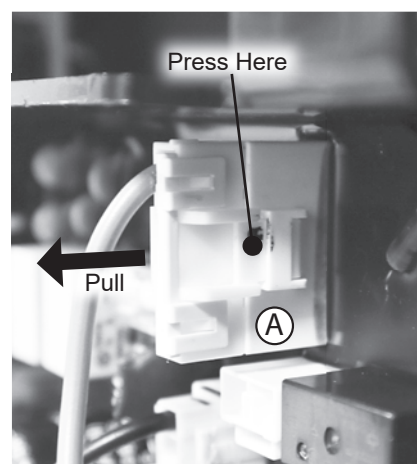
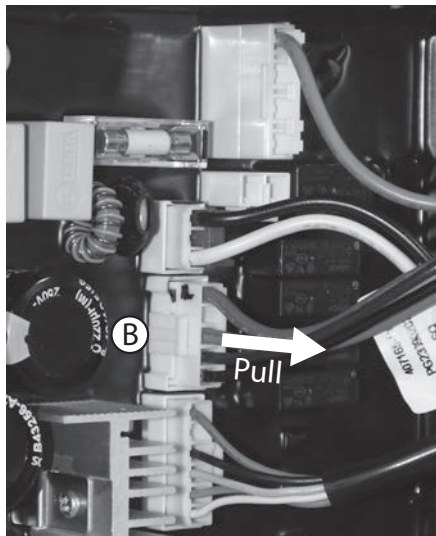

Figure 59 - Wiring harness A removal.
Figure 60 - Wiring harness location
**7** Using Figure 59 & Figure 60 as reference, disconnect wiring harness A and B from the control board.
**NOTICE:** To remove wiring harness **(A)**, depress the spot shown in Figure 59 while pull the harness away from the control board.
**8** Disconnect wiring harness **(B)** shown in Figure 60.